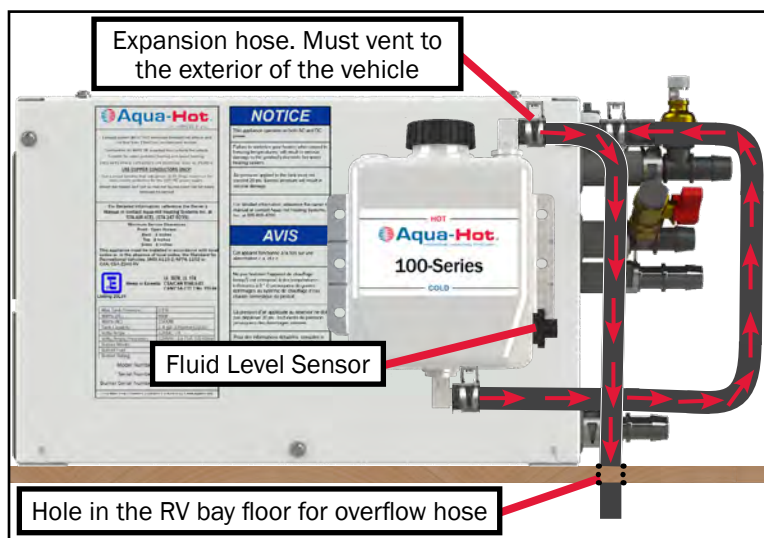

Figure 16
3. Drill a hole in the floor of the RV to allow the overflow tube to vent to the exterior of the vehicle (Figure 16).
6. Place the overflow hose so that it connects to the upper fitting of the expansion bottle, and exits through the hole drilled through the RV floor in step 3 (Figure 16). Secure this hose to the upper fitting with a constant tension hose clamp.